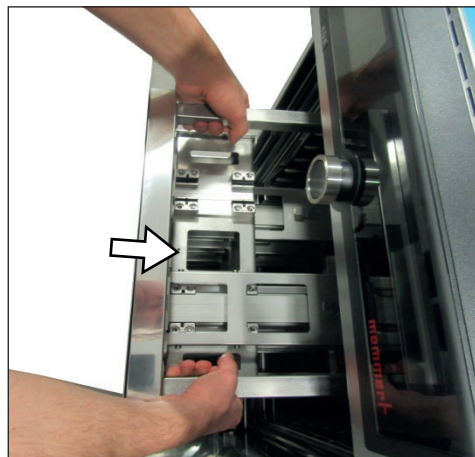

Fig. 4 Insert the IVF module into the tube with both hands
1. Grip the IVF module by the frame with both hands and insert it into the tube (Fig. 4).